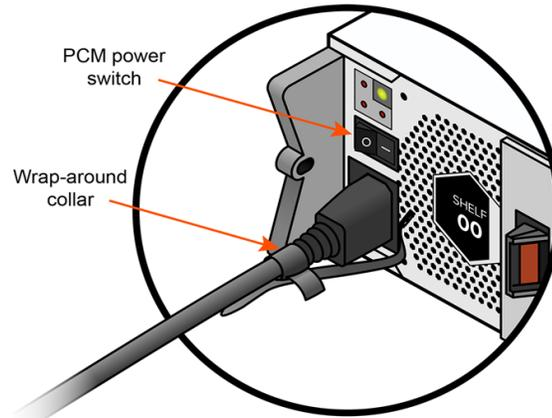

Figure 17-3. Powering On the Add-on Shelf
1. Plug power cords into add-on shelf PCMs, secure with wrap-around collars (see Figure 17-3), and connect cords to rack power.